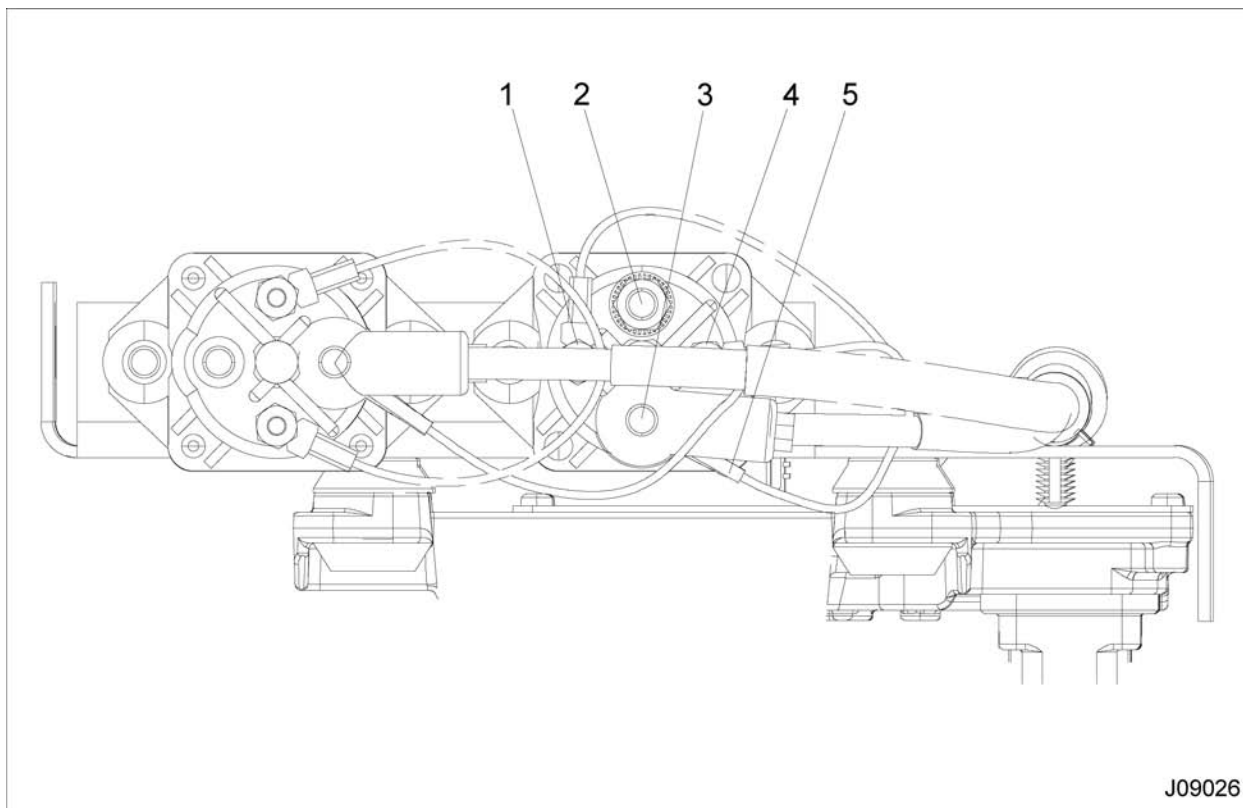

Figure 495 Glow plug relay wiring connections
2. Remove ground lead from the ground connection post 1 (Figure 495).
3. Loosen nut and remove battery lead from battery connection post 2 (Figure 495).
4. Loosen nuts and remove both glow plug harness leads from glow plug relay main connection post 3 and glow plug control post 4 (Figure 495).
5. Loosen nut and remove diagnostic lead from diagnostic connection post 5 (Figure 495).